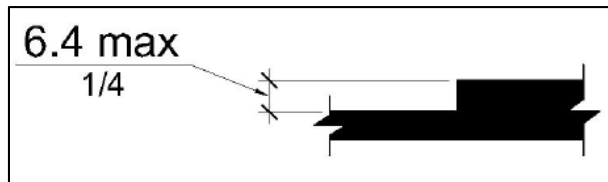

Figure 12 - Vertical Discontinuities
- Vertical surface discontinuities in the curb ramp, curb ramp turning space, or curb ramp flares do not exceed 0.25 in. (see **Figure 12**)
- Vertical surface discontinuities in the clear space do not exceed 0.25 in (see **Figure 12**)
- Vertical surface discontinuities do not exceed 0.25 in. (see **Figure 12**)